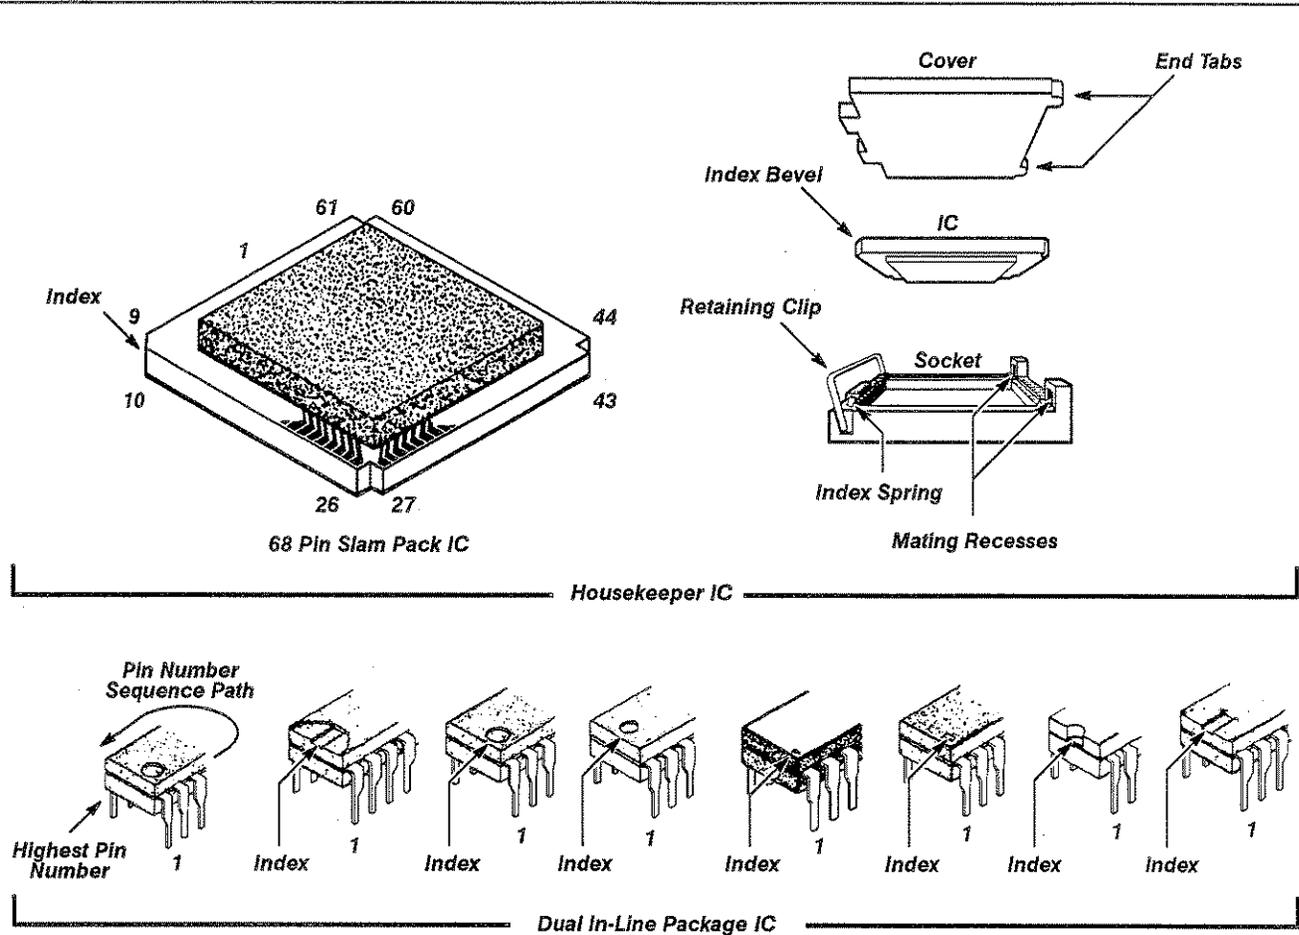

Figure 3-2 — Semiconductor Indexing Diagram
**Housekeeper Integrated Circuit ("Slam-Pack" ICs)** – The Housekeeper IC (A1U600) is indexed to its socket by a beveled corner, as shown in Figure 3-2. The other corners are notched to fit the edges of the socket. The beveled corner aligns with a spring (small metal tab) at one corner of the socket.
- Step 2: Do not use the IC label as an index. Look for the index on the IC body. Align the index slot with that of the A1U700 Processor IC underneath it. (Figure 3-2 gives an illustration of this indexing.)